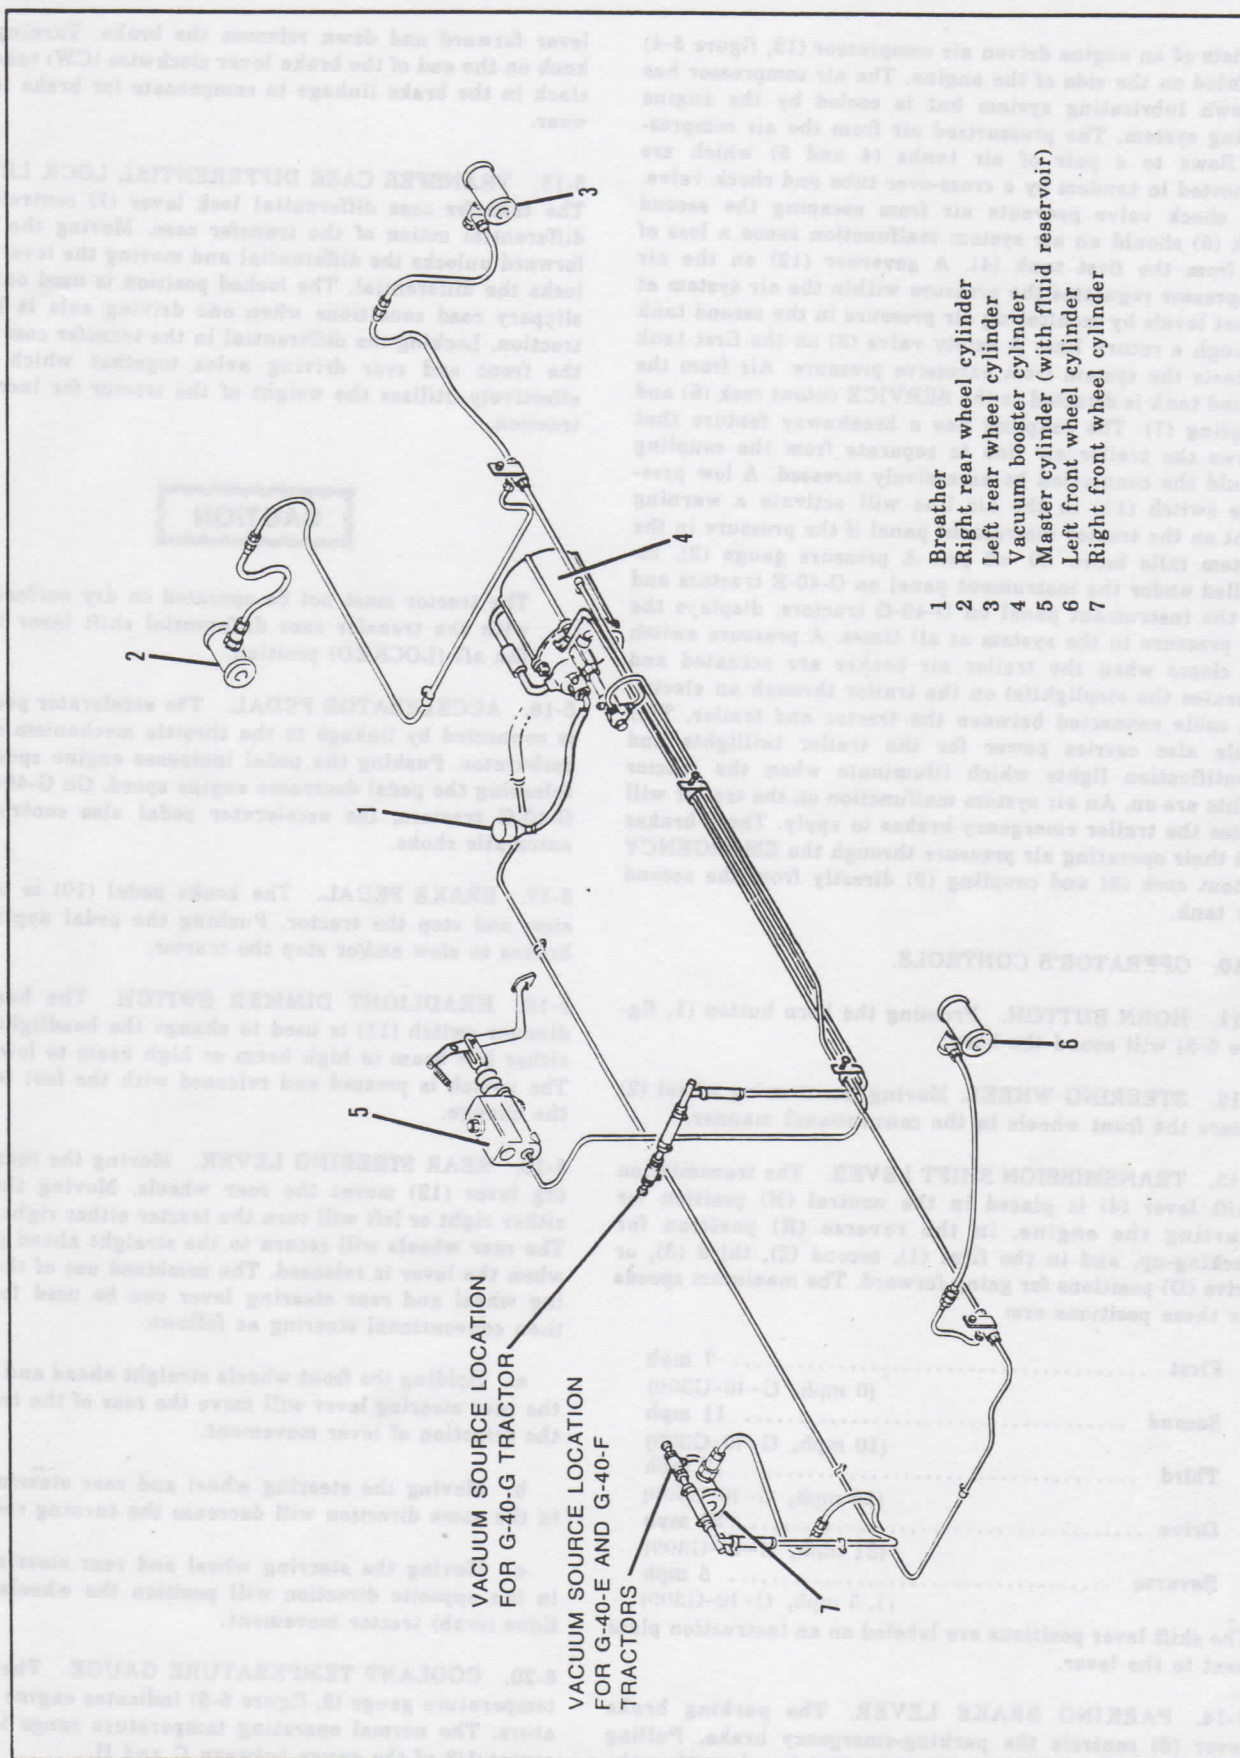

Figure 5-3. Brake System
5-8. **BRAKE SYSTEM.** The brake system consists of a conventional hydraulic master cylinder (5, figure 5-3) and hydraulic wheel cylinders (2, 3, 6, and 7). However, instead of the master cylinder being connected directly to the wheel cylinders, it is connected to a vacuum booster (4). The vacuum booster has a large chamber separated by a sliding piston. One side of the chamber is connected to the engine intake manifold for a vacuum source and the other side of the chamber is open to the atmosphere through an air valve. When the brake pedal is pushed, the pressure generated in the master cylinder operates the air valve to let air into the pressure side of the booster chamber. This pressure differential created by atmospheric pressure on one side and vacuum on the other causes the piston to move towards the vacuum side. The piston is connected to a second master cylinder on the booster chamber which provides pressure to the wheel cylinders to operate the brakes. The piston is spring loaded towards the pressure side and releasing the brake pedal decreases the pressure on the pressure side which causes the piston to return to the center or neutral position.